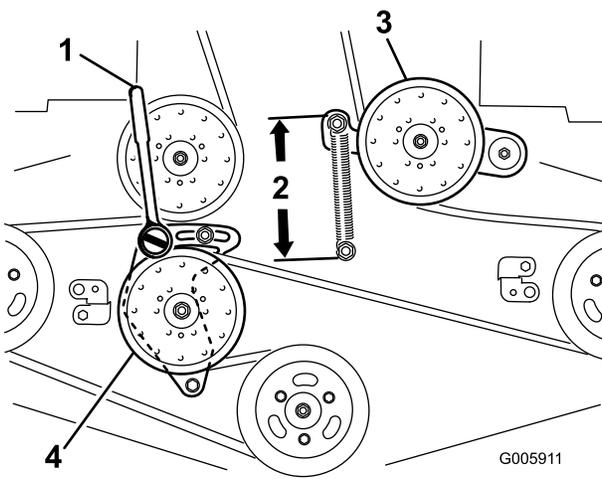

Figure 90
6. Loosen the fixed idler arm and adjust it to relieve belt tension (Figure 90).
9. Insert a ratchet with a short extension or a breaker bar into the square hole in the fixed idler arm (Figure 90).
11. To increase the belt tension, rotate the ratchet or breaker bar counterclockwise to move the fixed idler arm until there is 16.5 cm (6-1/2 inches) between the spring hooks (Figure 90).